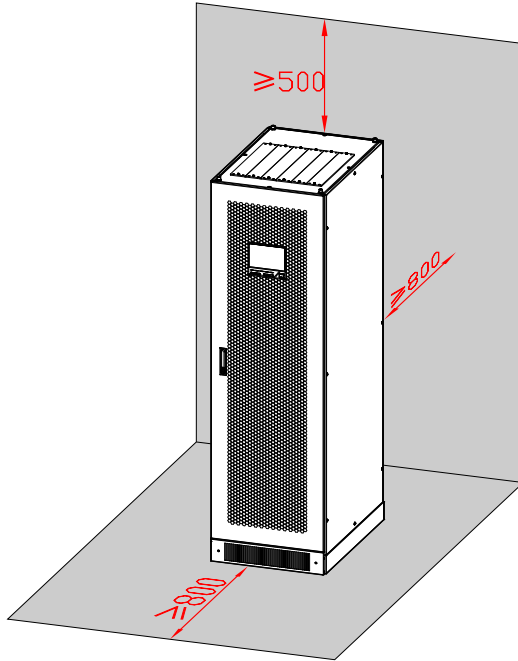

Figure3-2 Installation clearance(unit: mm)
- Keep at least 800mm from the front panel and the rear panel of the UPS to the wall or adjacent device, keep at least 500mm from the top of the UPS to the ceiling for heat dissipation and maintenance, as shown in Figure3-2.